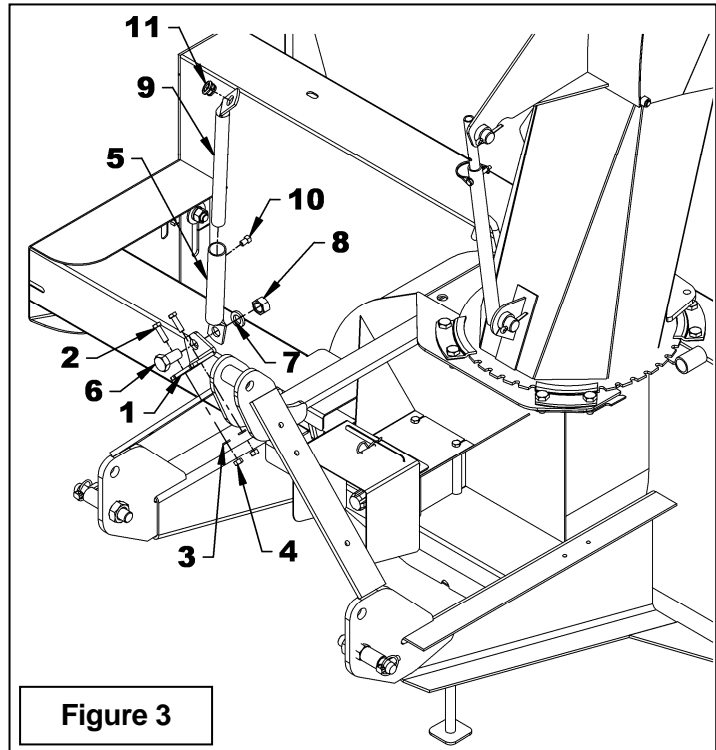

Figure 3
7. **Figure 3:** Install the rotation bracket (item 1) on the left or right arm of the three point hitch with two 3/8" NC x 1 1/4" bolts, lockwashers and nuts (items 2-3-4). Tighten firmly.
8. **Figure 3:** Attach the handle support bracket (item 5) to the rotation bracket (item 1) with a 3/4"NC x 1 1/4" bolt, lockwasher and nut (items 6-7-8) making sure to attach the brackets in the direction illustrated.
9. **Figure 3:** Insert the handle support (item 9) in the bracket (item 5) adjusting the height of the support according to your needs and secure in place with a 3/8" x 1/2" square head setscrew (item 10).
10. **Figure 3:** Insert the grommet (item 11) in the handle support (item 9).
12. **Figure 3:** Once the snowblower is attached to the tractor, adjust handle position and height to ensure comfort and safe operation. Tighten setscrew (item 10) on the handle support as well as the 3/4" x 1 1/2" bolt, 3/4" lockwasher and 3/4" nut (items 6-7-8).